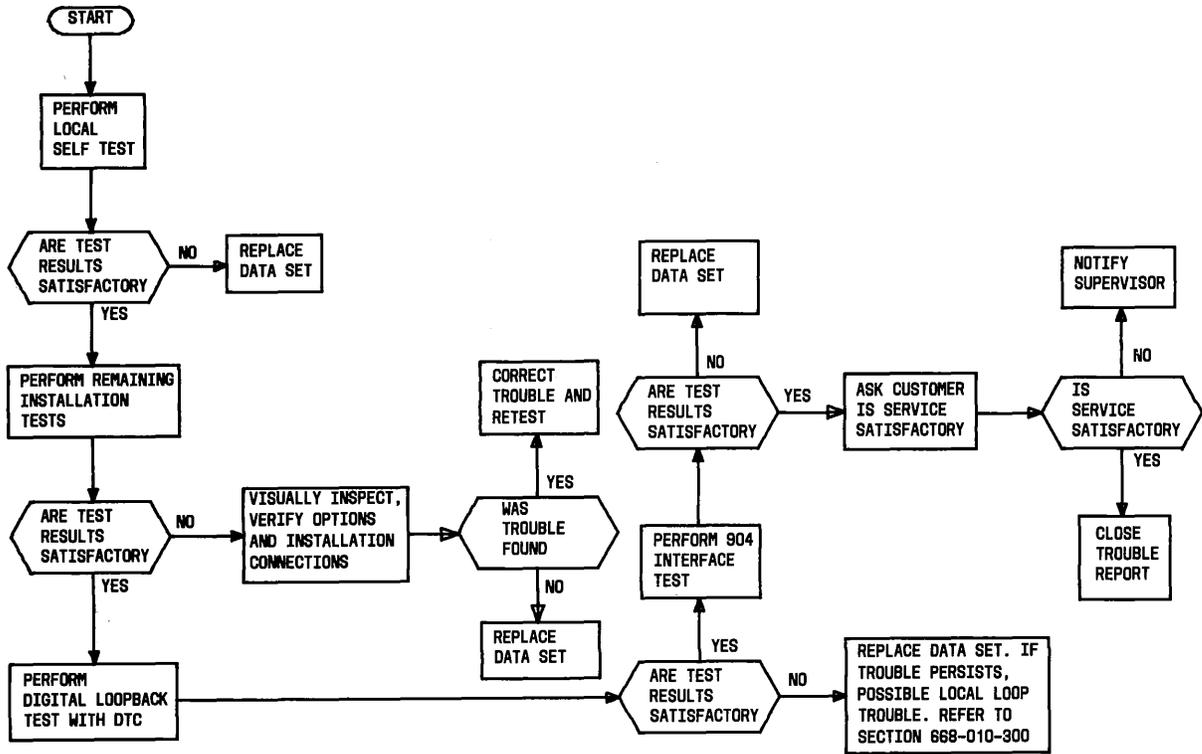

Fig. 7—Station Test Sequence—DS 113D-L1/2
- (1) Upon arrival at the customer location, the telco employee should make a quick visual inspection of the data set. Verify that power is applied. Check also for other possible causes of trouble, such as cable and connector defects.
- (2) If this initial check does not reveal a trouble condition, proceed as indicated in Fig. 7.